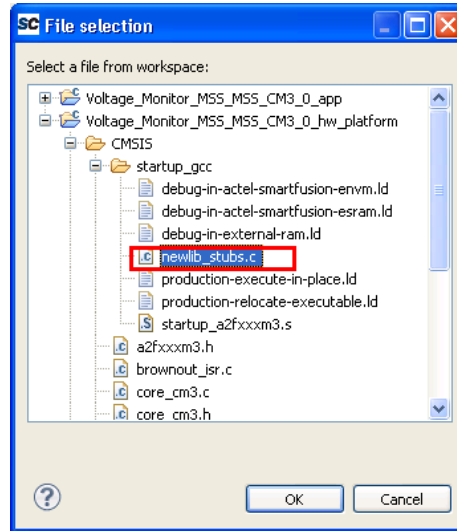

Figure 26 File Selection Window
9. Click **Workspace** and add the **newlib_stubs.c** file under **Voltage_Monitor_MSS_MSS_CM3_0_hw_platform > CMSIS > startup_gcc > newlib_stubs.c** as shown in Figure 26.